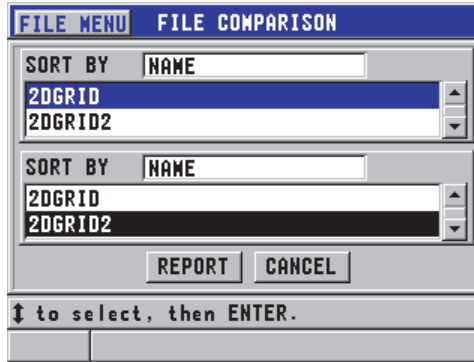

Figure 6-42 The FILE COMPARISON report screen
5. In the **FILE COMPARISON** screen (see Figure 6-42 on page 123):